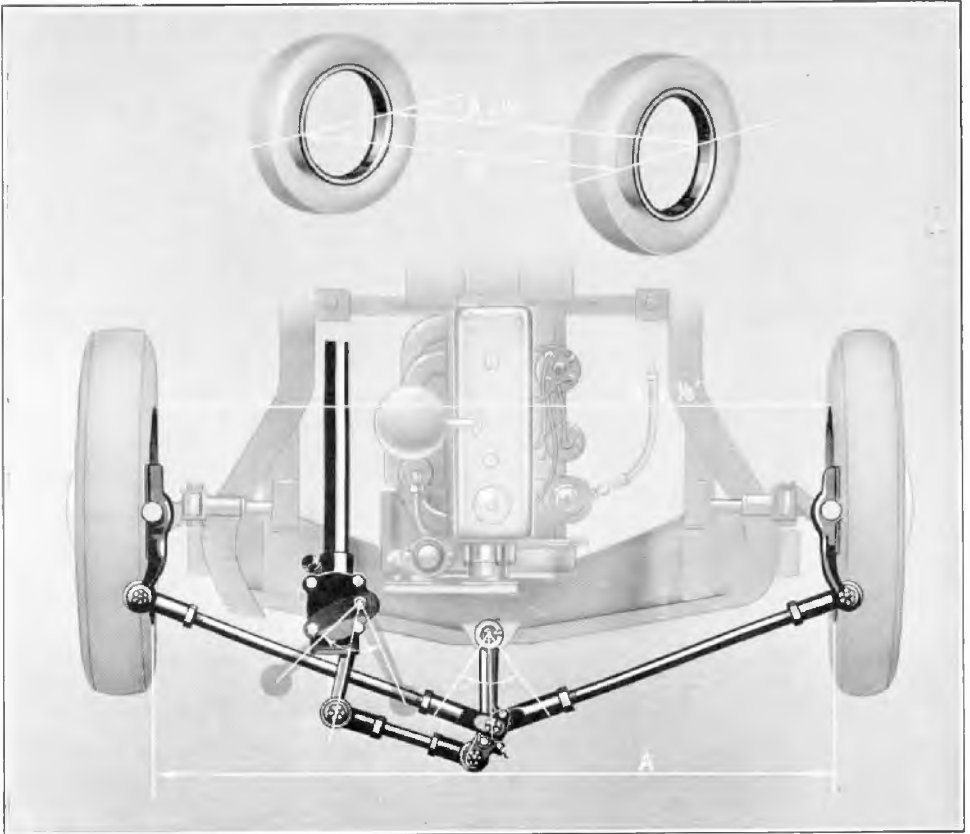

Fig. 38
- (i) Undo locknuts at both ends of the track rods. (See Fig. 38)
- (ii) Set steering pivot lever in the central position. (See Fig. 38).